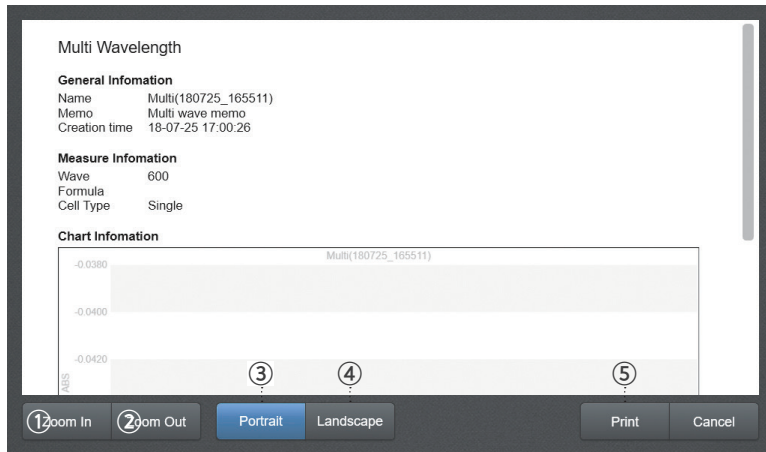

Fig. 3.18
8. [Fig. 3.18] You can zoom in or out on the printing details using the ① **Zoom In** or ② **Zoom Out** buttons.
9. [Fig. 3.18] You can check or print in landscape or portrait mode using the ③ **Portrait** and ④ **Landscape** buttons.
10. [Fig. 3.18] Check the details to print and press the ⑤ **Print** button to open the print settings screen.